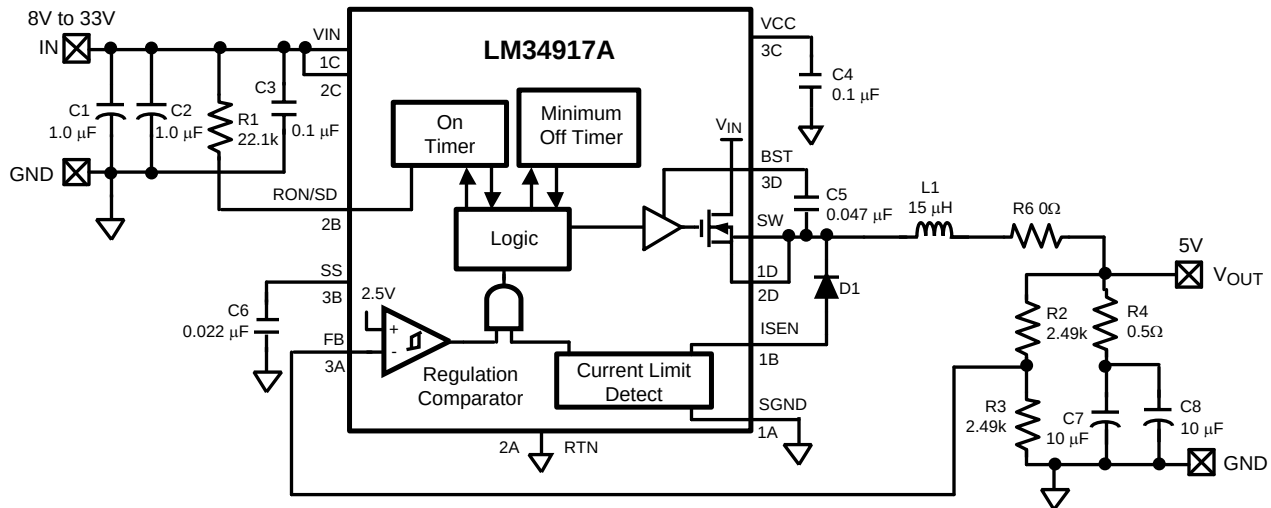

Figure 4. Lowest Cost Configuration
C) Lowest Cost Configuration: This configuration is the same as option B, but without Cff. Since ≥ 25 mVp-p are required at the FB pin, R4 is chosen to generate ≥ 50 mV at V_{OUT} , knowing that the minimum ripple current in this circuit is 105 mA p-p at minimum V_{IN} . Using 0.5Ω for R4, the ripple at V_{OUT} ranges from ≈ 80 mVp-p to ≈ 150 mVp-p over the input voltage range. If the application can tolerate this ripple level, this is the most economical solution. The circuit is shown in Figure 4.